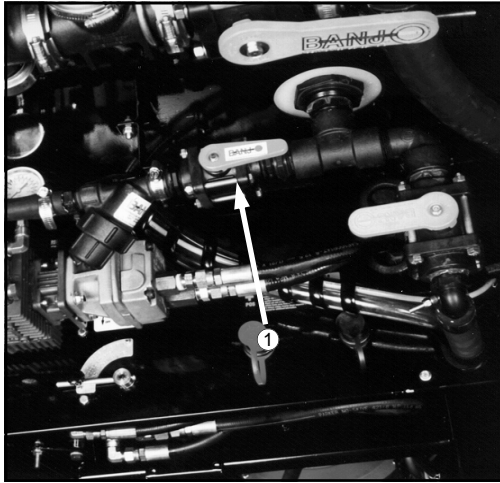

FIG 5.49
1. If equipped with pressure washing system option, close rinse supply valve to washer pump (fig. 5.49, item 1).